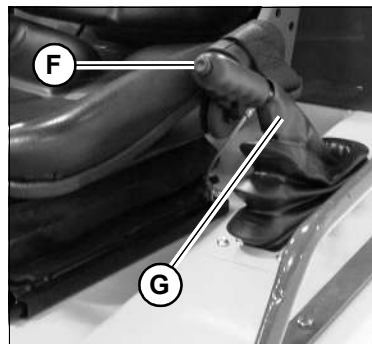

Figure 33 – Parking Brake
3. Release the parking brake. Lift lever (G, Fig. 33) slightly and press button (F) and press lever (G) downward. Release the button.